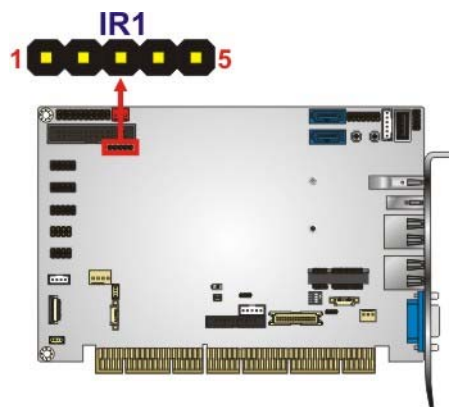

Figure 3-12: Infrared Connector Location
- CN Location:** See Figure 3-12